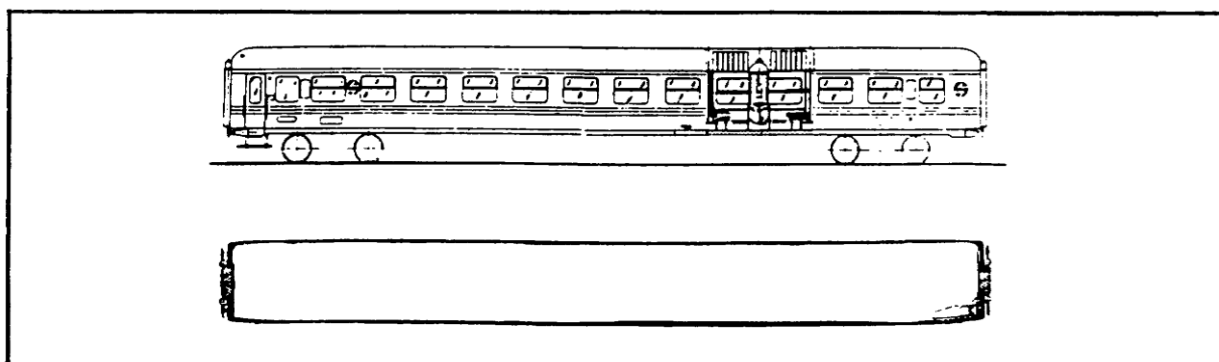

Figure 1-31. Passenger Coach.
4. Passenger cars. There are many functional types of passenger cars, such as coaches, sleepers, diners, conference or club cars, and baggage cars (Figures 1-31 thru 1-36).